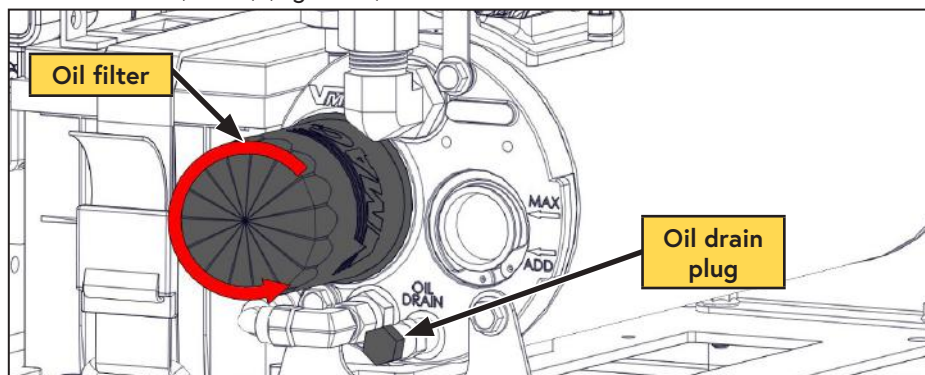

Figure 36 — Compressor oil filter
- ☐ Remove the oil drain plug and drain the oil into a container with a capacity of at least 4 L (1 USG) (Figure 36).
- ☐ Remove the oil filter (Figure 36).